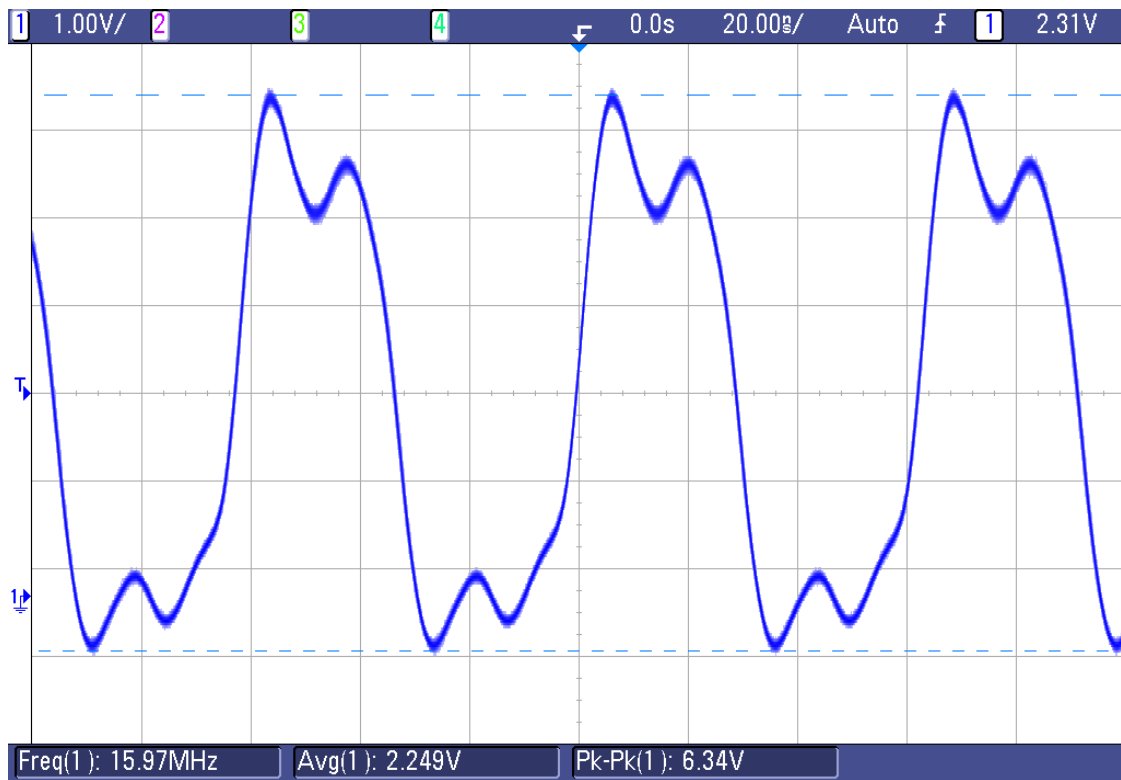
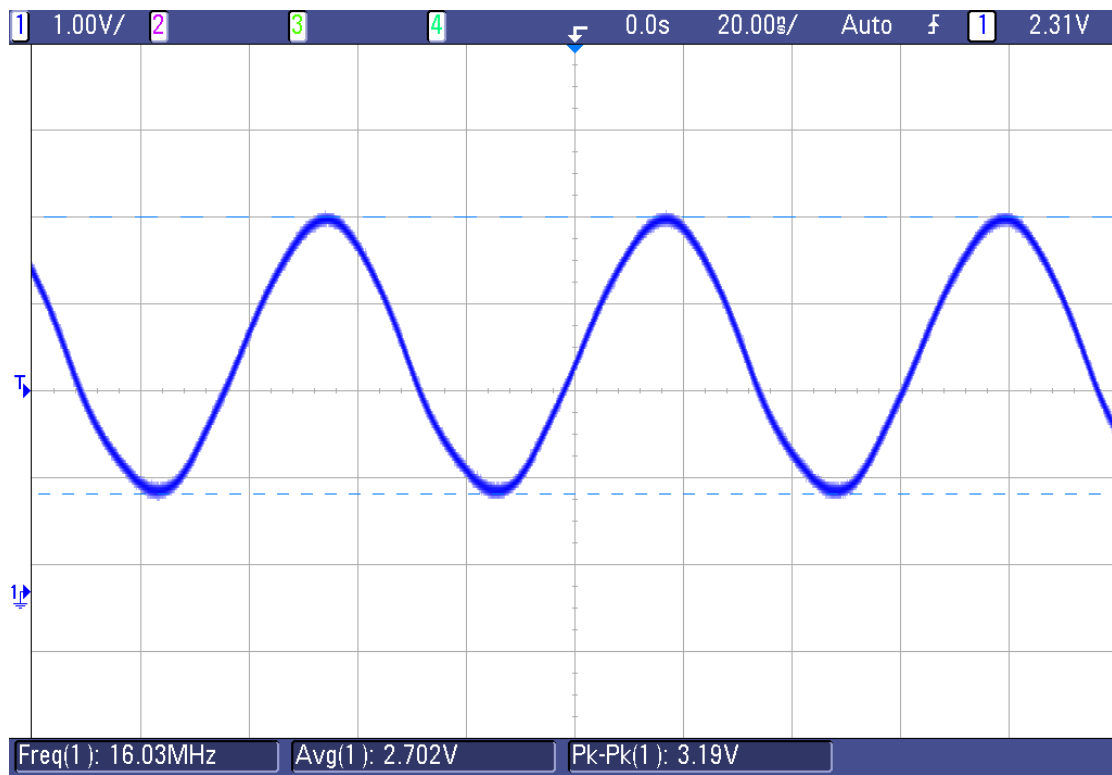

Figure 4 – Proper oscilloscope waveform for Pin-58
Figure 5 – Proper oscilloscope waveform for Pin-59
- 4.3. Check the crystal oscillator's functionality by using the oscilloscope. From Pin-58 and Pin-59, you should see the respective waveforms in Figure 4 and Figure 5.